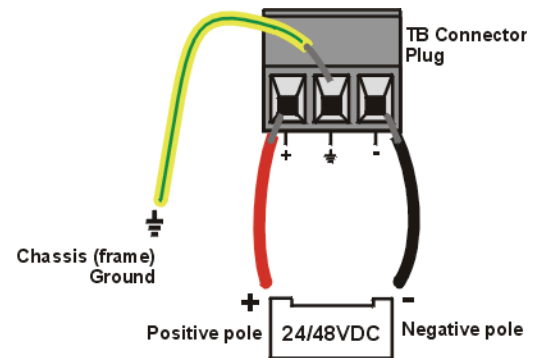

Figure 3. Mapping of the Power Supply Wire Leads to the TB Plug Terminals
2. Place each wire lead into the appropriate TB plug terminal according to the voltage polarity mapping shown in Figure 3. (If a terminal is not already open, loosen its screw.) Afterwards, tighten the three terminal screws to close them.